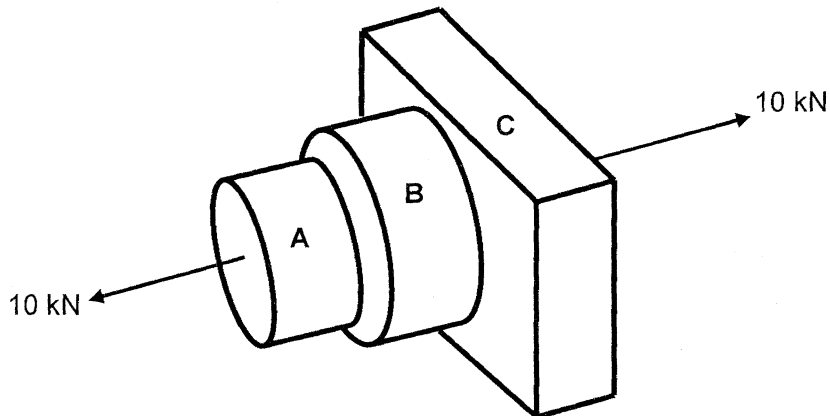

Figure 3
3. Figure 3 shows a steel combination bar acting with a force 10 kN. Bar A is 15 mm diameter, bar B is 30 mm diameter and the size of the square plate is 40 x 40 mm. If the modulus of elasticity of the steel is 210 GN/m², calculate the following: